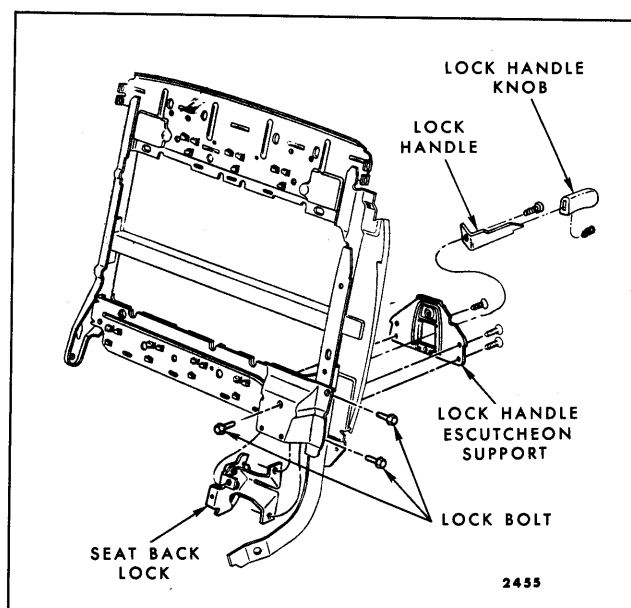

Fig. 15-21—Front Seat Back Lock - "A, B & X" Two-Door Styles, Standard Full Width Seat
3. Remove seat back lock handle knob, lock handle escutcheon and lock handle (Fig. 15-21).
4. Remove hog rings securing seat back front and rear trim facings at bottom of seat back, then, turn up trim sufficiently to gain access to lock attaching bolts (Fig. 15-21).
5. Remove seat back lock attaching bolts (Fig. 15-21); then, remove lock assembly from bottom of seat back.